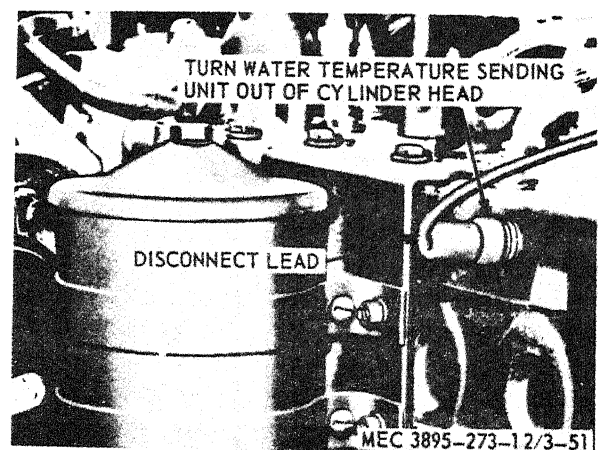

Figure 3-48. Water temperature sending unit, removal and installation.
a. Removal. Remove the water temperature sending unit from the engine as instructed on figure 3-48.
- (1) Clean the water temperature sending unit, removing any scale and rust from the element.
- (2) Inspect the unit for damage and proper operation. Replace a defective unit.
c. Installation. Install the water temperature sending unit in the engine in reverse of the instructions on figure 3-48.